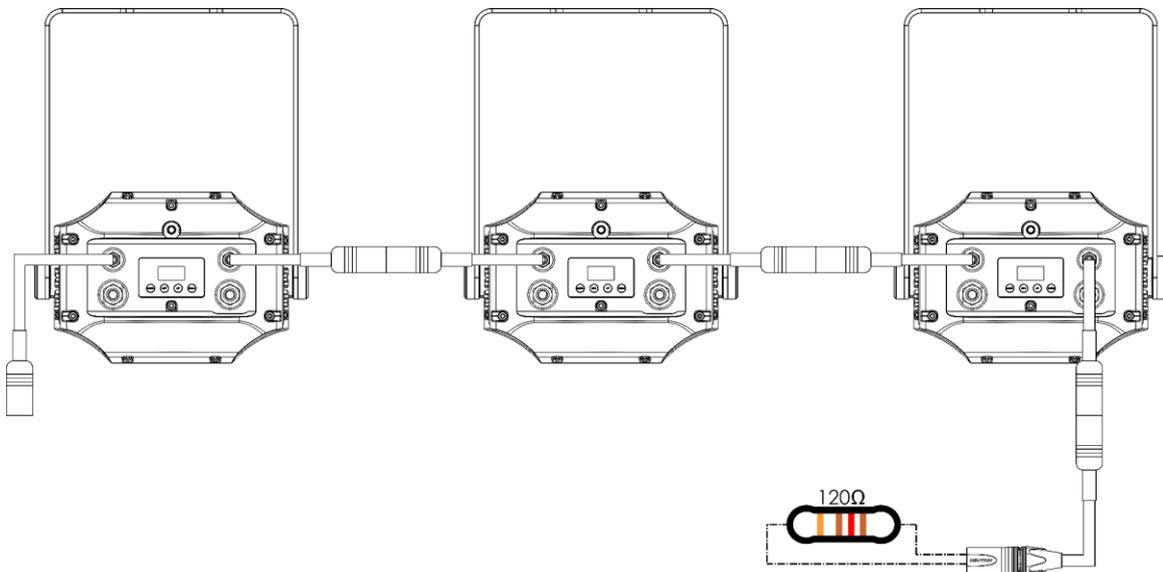

Fig. 11
- 02) Repeat step 1 to connect all devices as shown in Fig. 11.